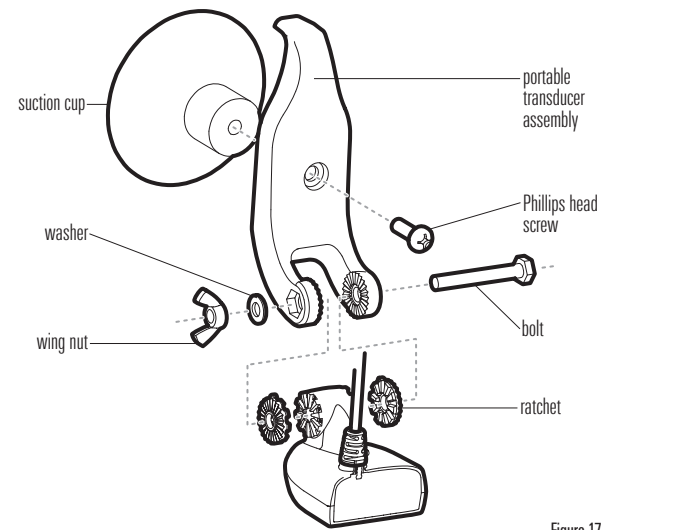

Figure 17
2. Assemble the other transducer parts as shown in Figure 17. **Hand tighten only!**